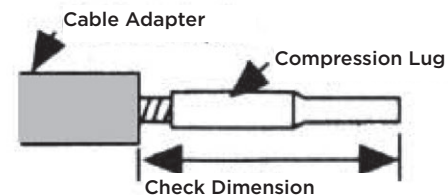

Fig. 7 - Check and Crimp
- a. Verify check dimension is less than 6 1/2" prior to crimping. (See Figure 7.) Refer to crimp chart packed with lug.